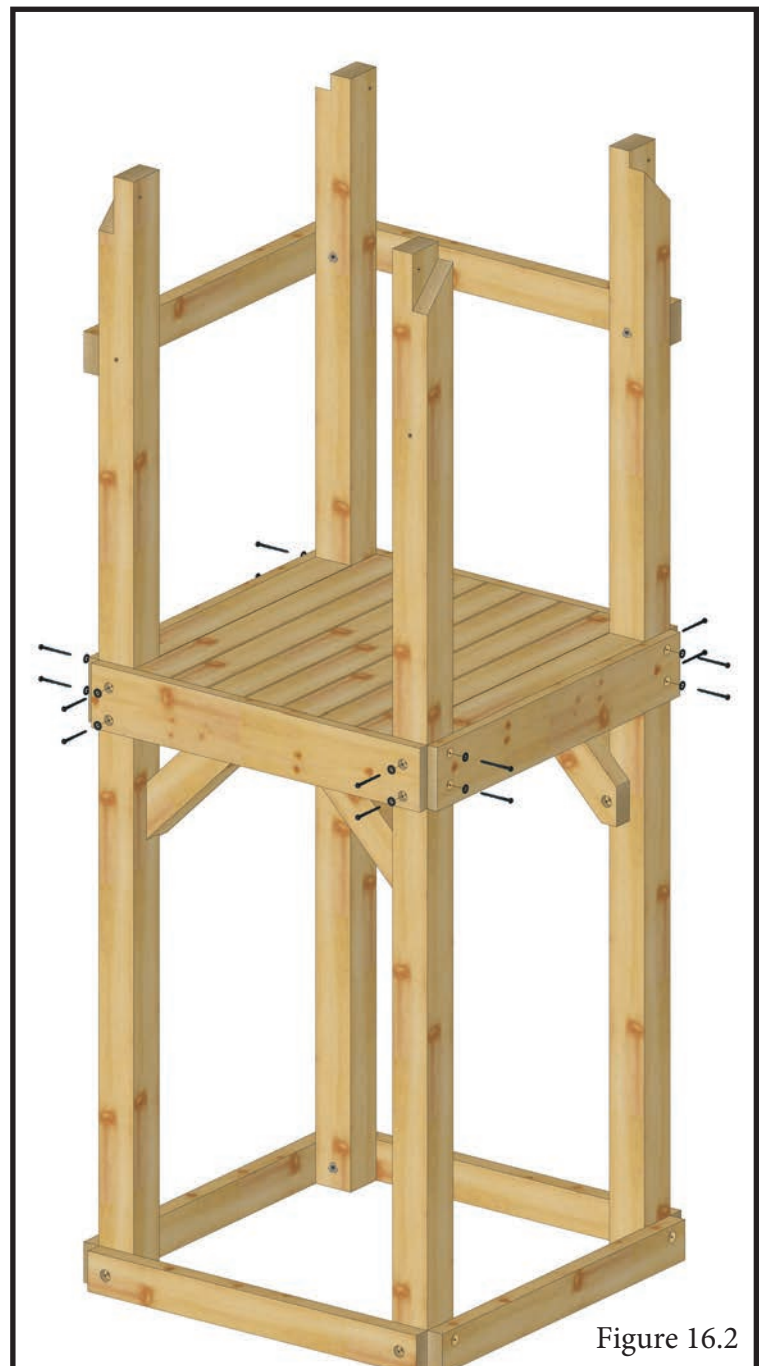

Figure 16.2
16.2 Fasten Fascia 33" (4) to Corner Post with 1/4 x 2-1/2 Lag Bolts with 1/4 washer as shown in Figure 16.2. Mind the offset pattern.